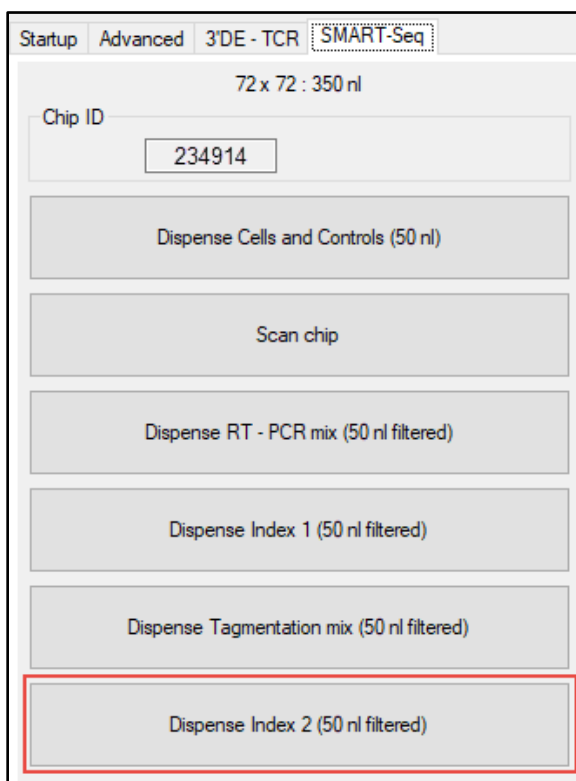

Figure 20. Using CELLSTUDIO software to dispense Index 2.
- At step 6, click the [Dispense Index 1] button (Figure 20).